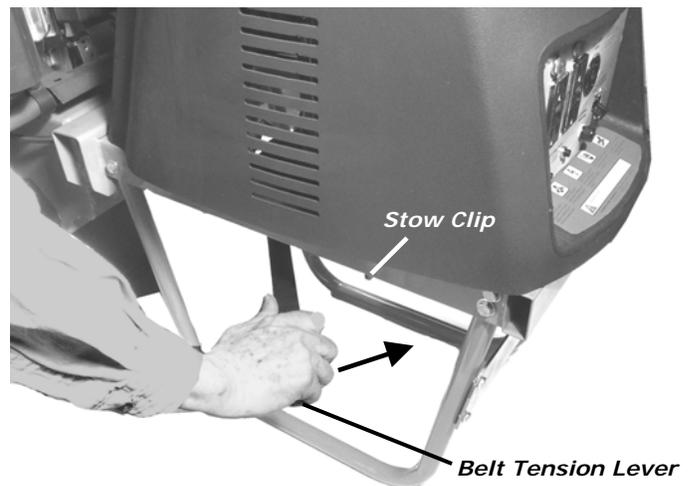

Figure 11
6. Push the Belt Tension Lever back into its locked position on the Generator (**Figure 11**).